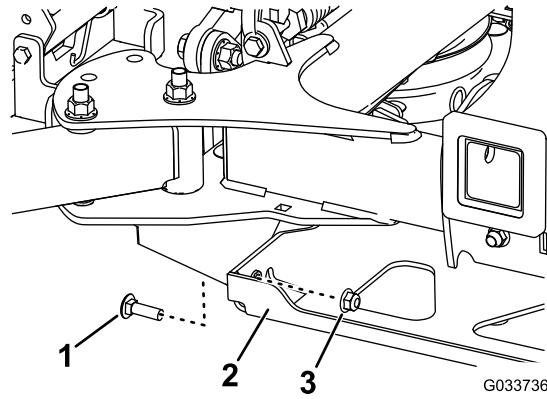

Figure 92
4. Remove the 2 bolts and 2 nuts connecting the strut bracket to the frame (Figure 92).
4. Install the 2 bolts that you retained to connect the strut bracket to the frame (Figure 92).